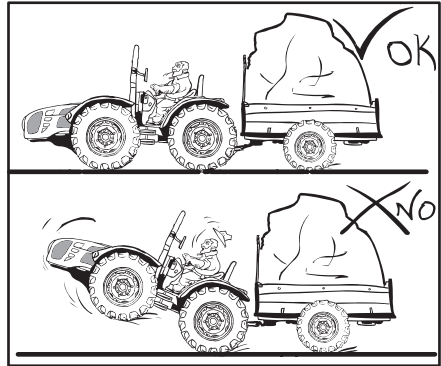

Fig. 2.20
- Tow from the drawbar only. Towing or hitching from other points can cause the tractor to overturn (Fig. 2.20).